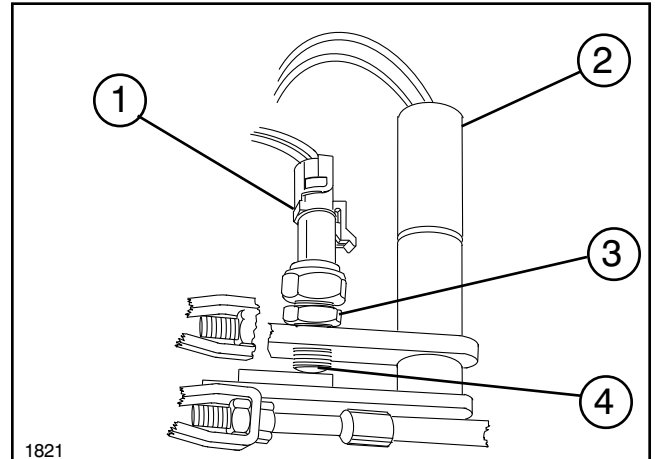

FIG. 3
4. Loosen jam nut on Neutral Switch. (See Fig. 3, page 29)